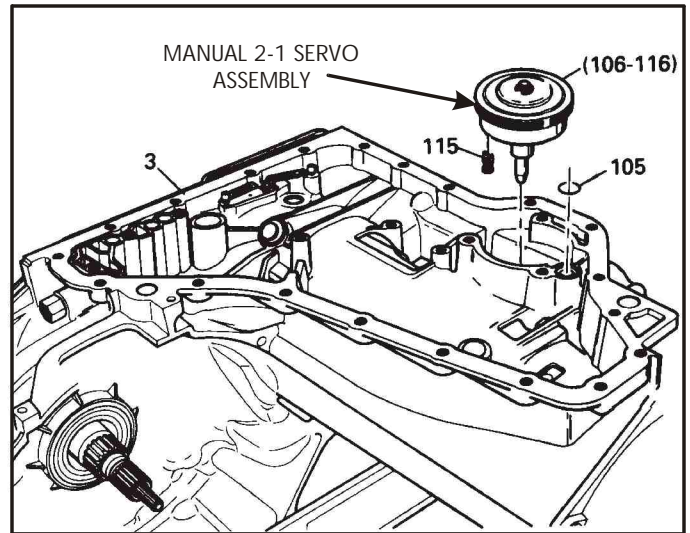

Figure 43
9. Remove the forward servo apply seal (105), from the case, as shown in Figure 43.
10. Remove the 2-1 manual servo assembly from the case, as shown in Figure 43. Be careful so as not to damage the screen (115), during removal (See Figure 43).